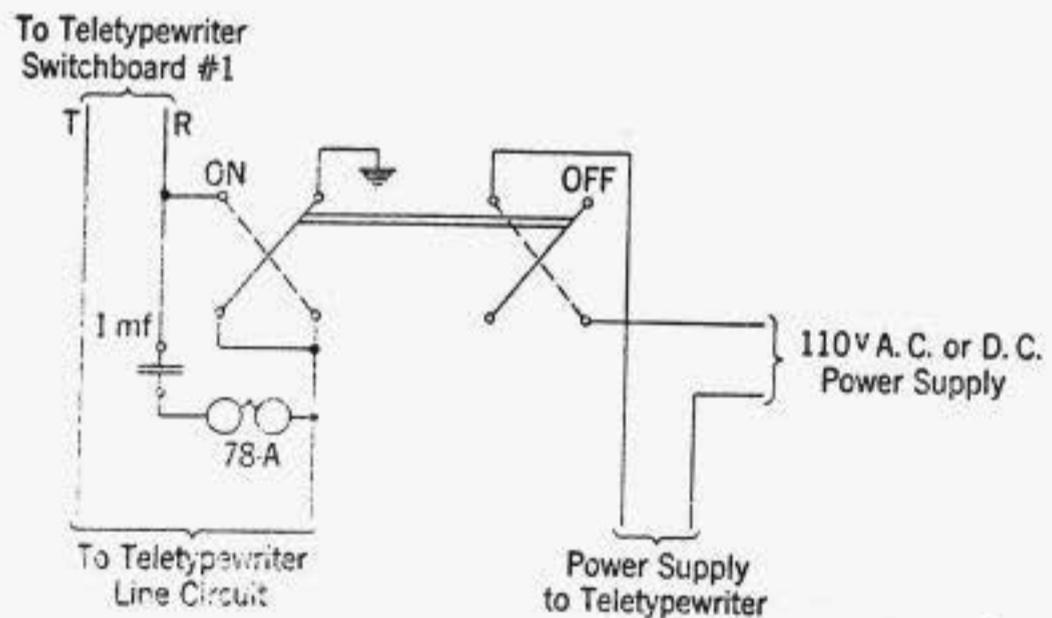

Fig. 1—125-A-1 Set
2.02 A schematic circuit of the 125-A-1 set is shown by Figure 1 and the detailed wiring is covered in a circuit label inside the cover of the set. In Figure 1, the power switch is shown in the "OFF" position. In this position the tip side of the line is connected through the teletypewriter to ground and the ring side of the line is connected through the ringer and power switch to ground.